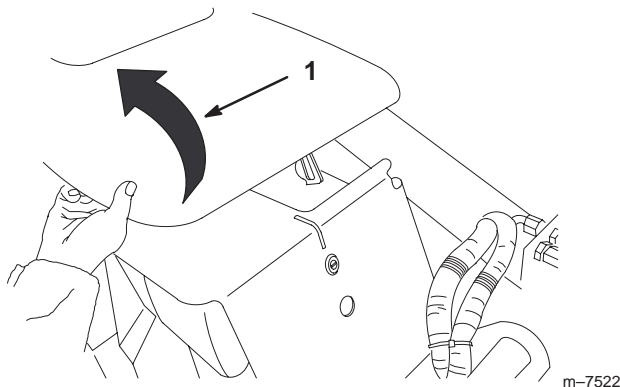

Figure 31
2. Swing the hood up (Fig. 31).